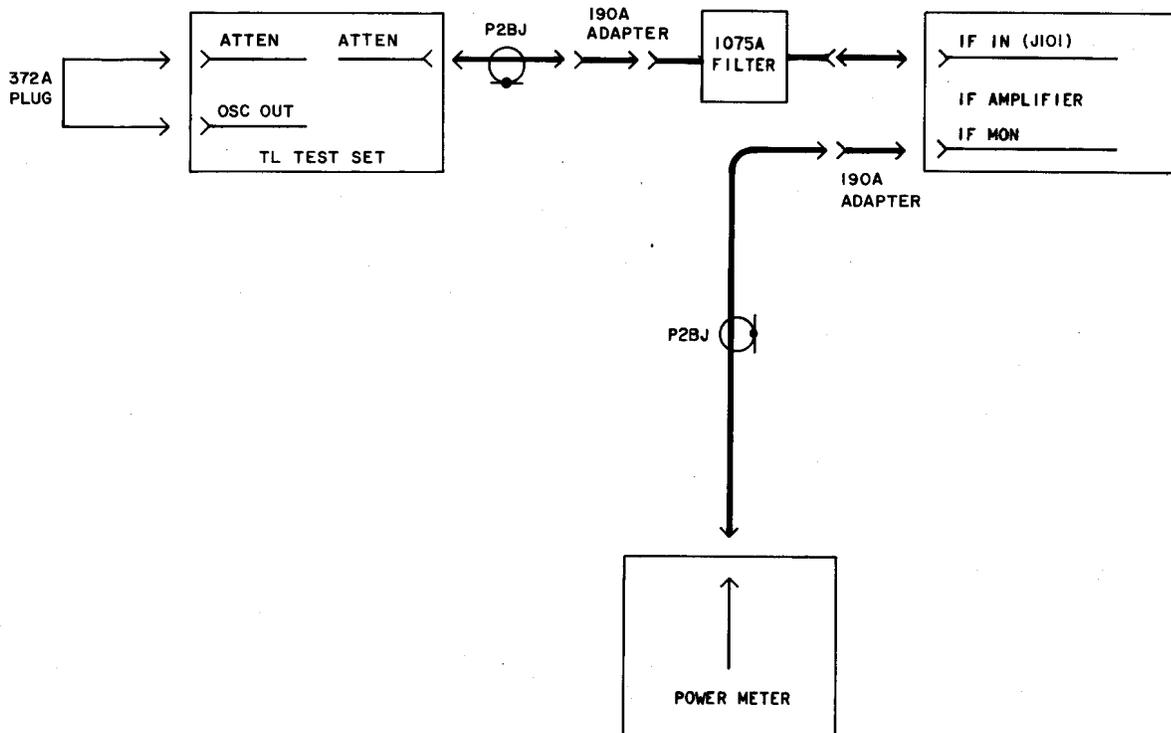

Fig. 2—J99351E IF Amplifier Unit—AGC Performance Test—Test Setup Diagram
- 3 Connect the equipment as shown in Fig. 2 with a 70-MHz IF output at a level of -9 dBm from the TL test set.